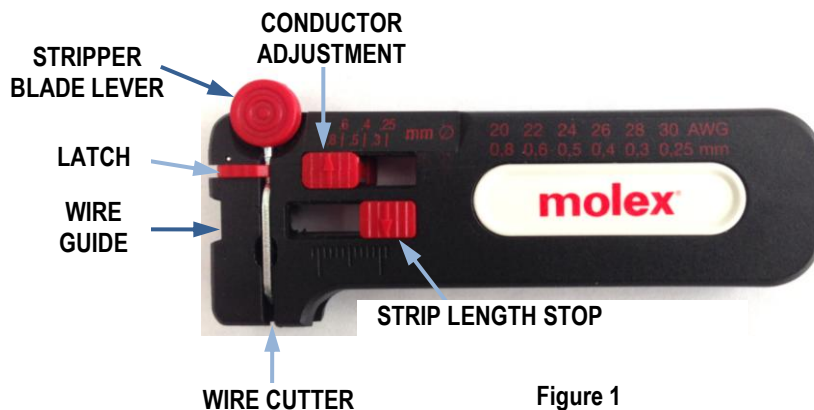

Figure 1
Follow the steps below for stripping the wire and refer to Figure 1 to identify the components of the Micro Precision Wire Stripper.
1. Slide the Latch in Figure 1 to unlock the Stripper Blade Lever.